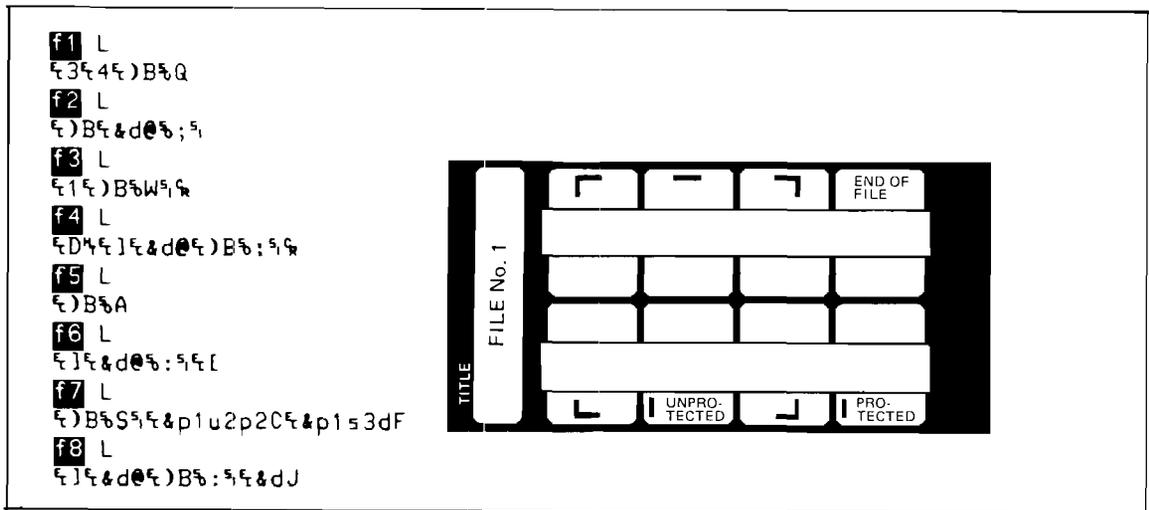

Figure A-1. Soft Key Programming and Soft Key Overlay For File 1
Figures A-1 through A-3 show the escape sequences required for programming the soft keys. To record these on the
- STEP 2. Using figure A-1 as a guide, program each key, and mark a soft key overlay as shown.